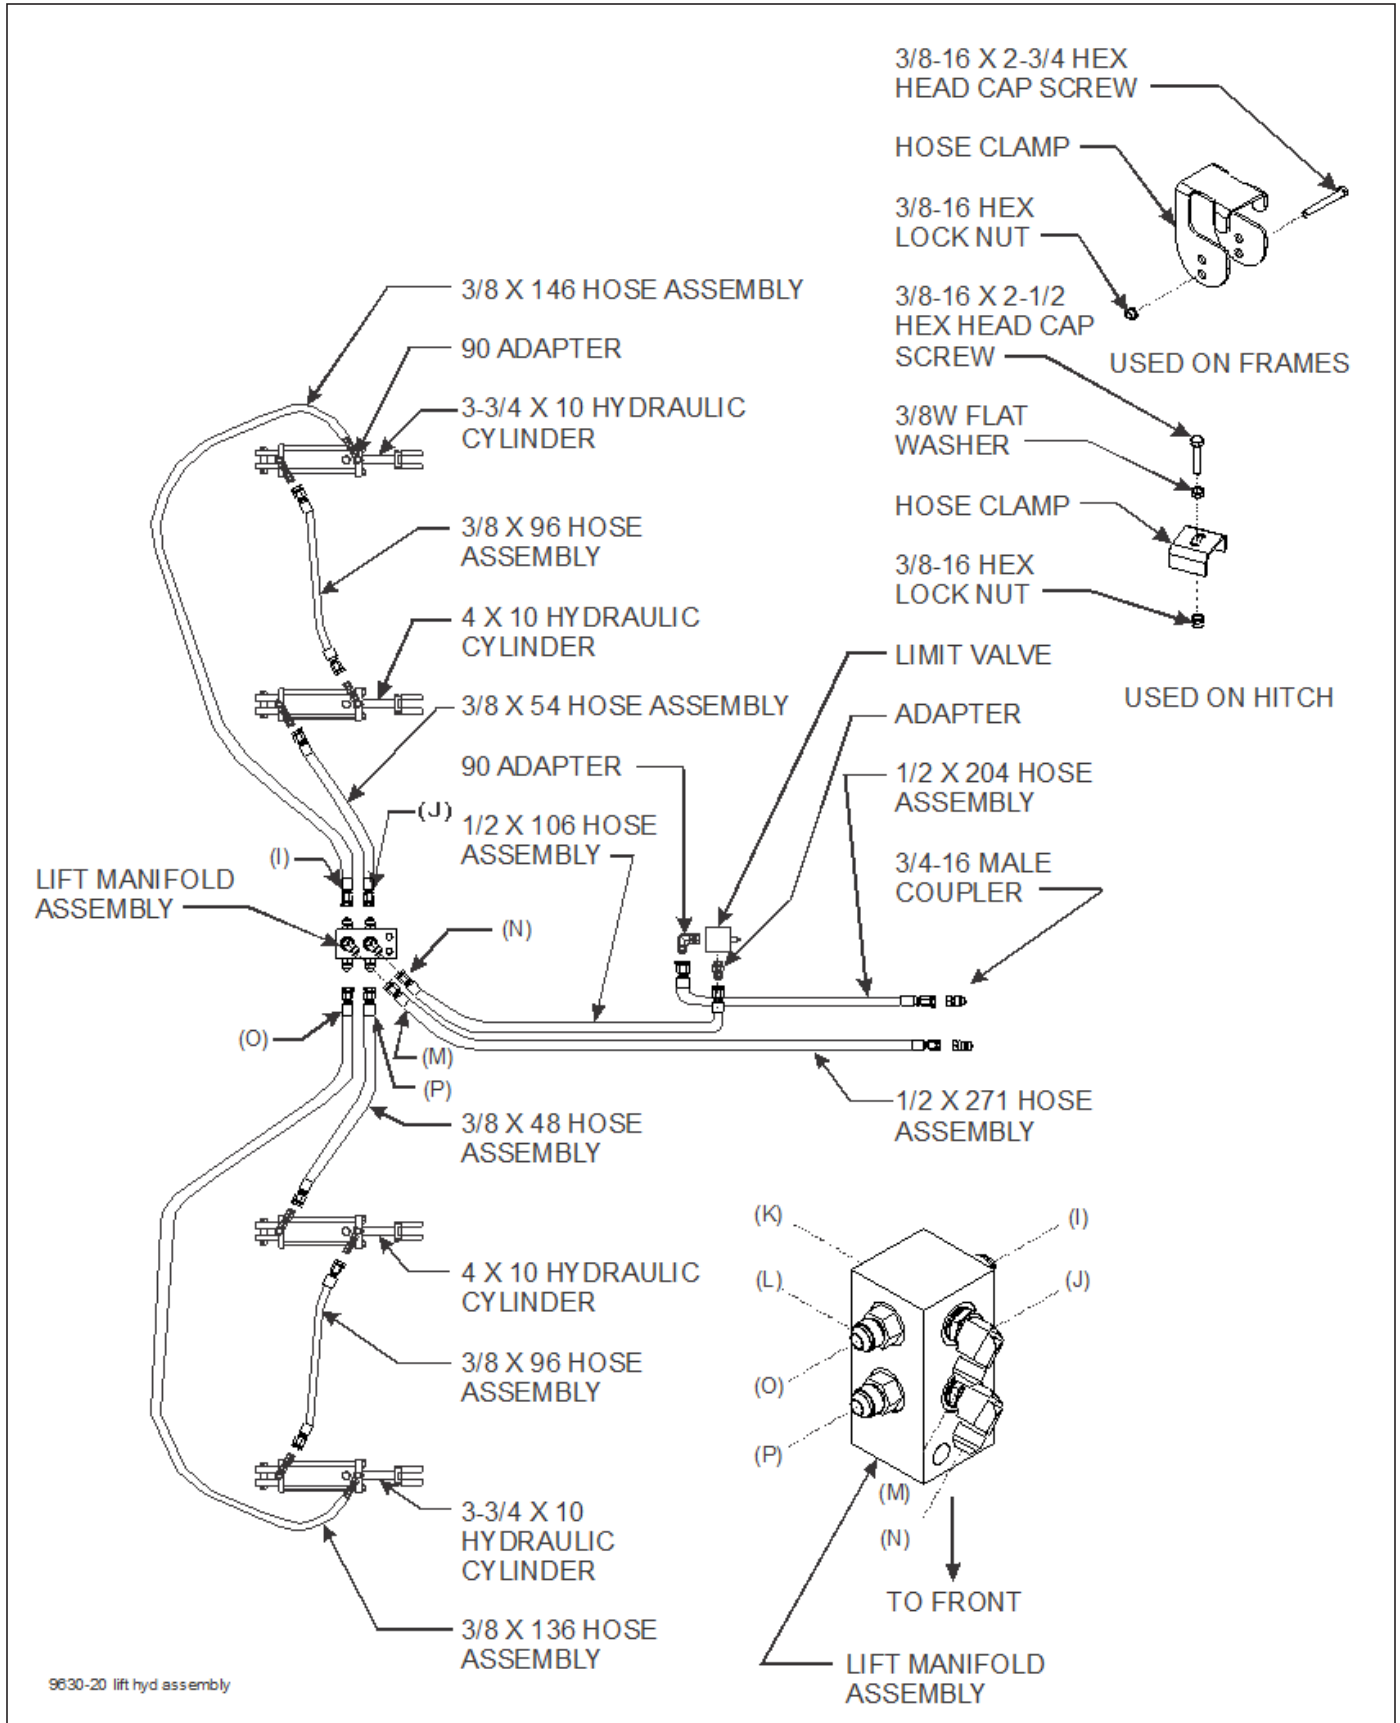

Figure 3-10: Hydraulic Lift Installation (9630-20)
See Figures 3-10 through 3-16 for hydraulic cylinder fittings (factory installed and those installed during setup.)
Refer to Figures 3-10 and 3-12 for lift and fold hydraulic diagrams for 9630-20 models.
8. Install lift system hoses per Figures 3-10 (9630-20), 3-11 (9630-24), Figure 3-13 (9630-28), or Figure 3-15 (9630-30 and 9630-34.) Wrap lift system hoses with blue hose wrap.